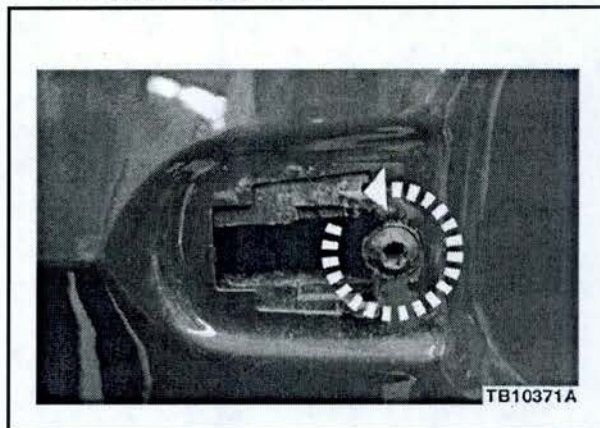

Figure 3 - Article 12-12-12
3. Loosen the handle reinforcement front screw one (1) turn. (Figure 3)